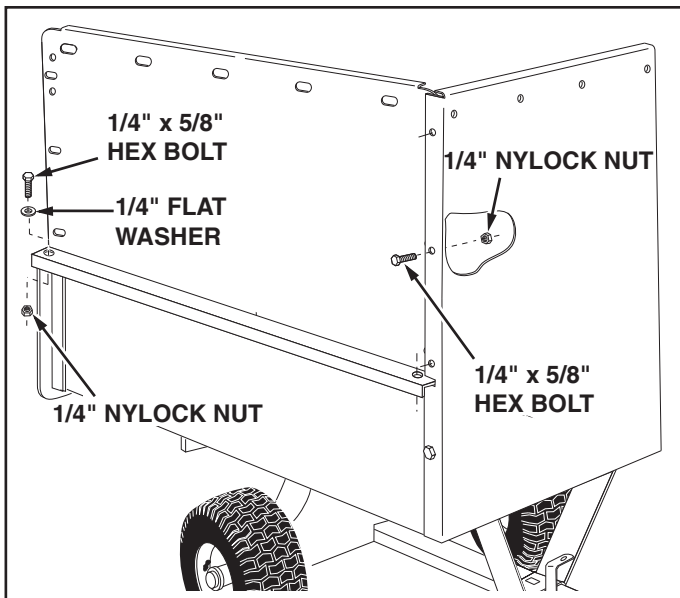

FIGURE 11
- Place a side panel on top of the cart bed flange, inside the lip of the front panel. Fasten the side panel to the front panel using three 1/4" x 5/8" hex bolts and 1/4" nylock nuts. Fasten the side panel to the cart bed flange using two 1/4" x 5/8" hex bolts, 1/4" flat washers and 1/4" nylock nuts. **Tighten.** See figure 11. Repeat on other side.